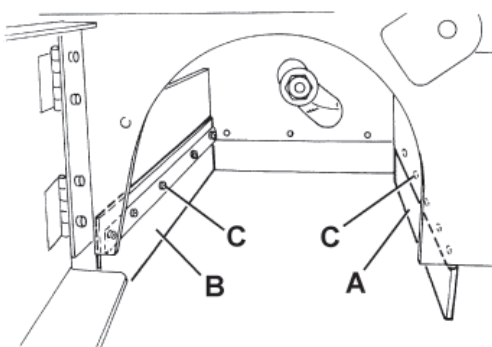
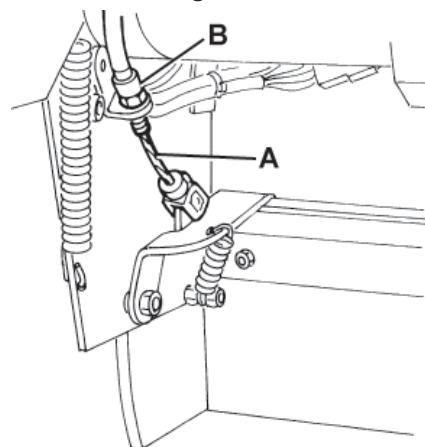
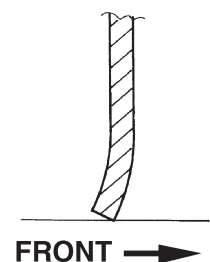

Figure 22
Figure 23
Figure 24
9. Check the front (A, Fig. 22) and rear skirts (B) for integrity.
10. Check that the front (A, Fig. 22) and rear skirts (B) slightly rub on the floor (see Fig. 24).
If necessary, loosen the screws (C, Fig. 22) and adjust the skirt position. Then tighten the screws (C).
11. Press the front skirt lifting pedal (81) completely, and check that the front skirt lifts 5 cm approximately.
Release the pedal and check that the skirt does not remain in an intermediate position but returns to its initial position. If necessary, adjust the skirt lifting cable (A, Fig. 23) with the adjuster (B) on the left front side of the skirt (for the front skirt control cable replacement, see the Service Manual).